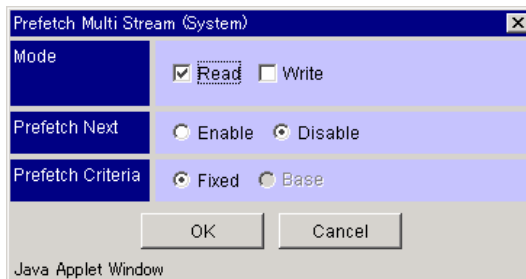

Figure 14.2 Prefetch Multi-Stream Dialog Box
- The **Prefetch Multi Stream (System)** dialog displays. See Figure 14.2.